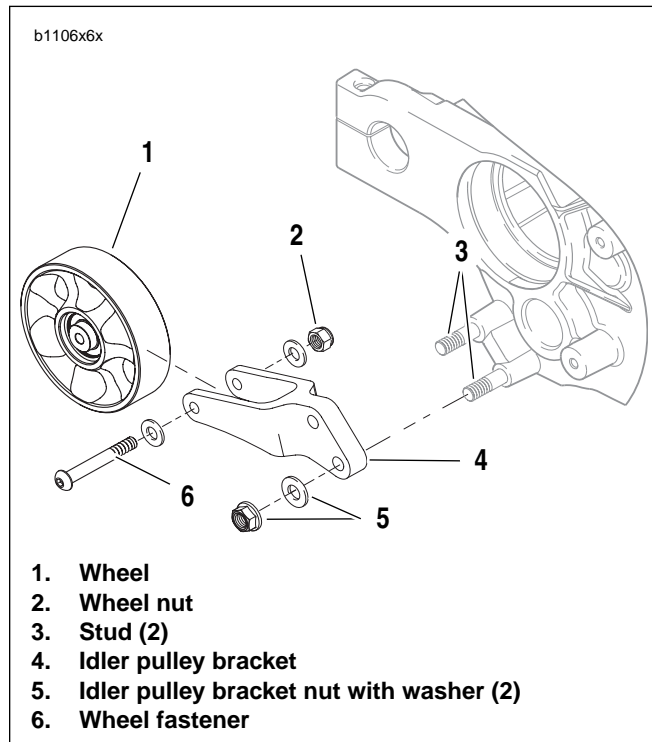

Figure 6-100. Idler Pulley Assembly
4. See Figure 6-100. Remove both bracket nuts with washers (5) attaching idler pulley bracket (4) to studs (3).
6. Inspect pulley by spinning wheel (1) and checking for excessive wheel bearing wear.
7. If pulley wheel needs replacement, remove fastener (6) and nut (2) from idler pulley bracket (4) and discard. Replace with **new** pulley wheel (1).